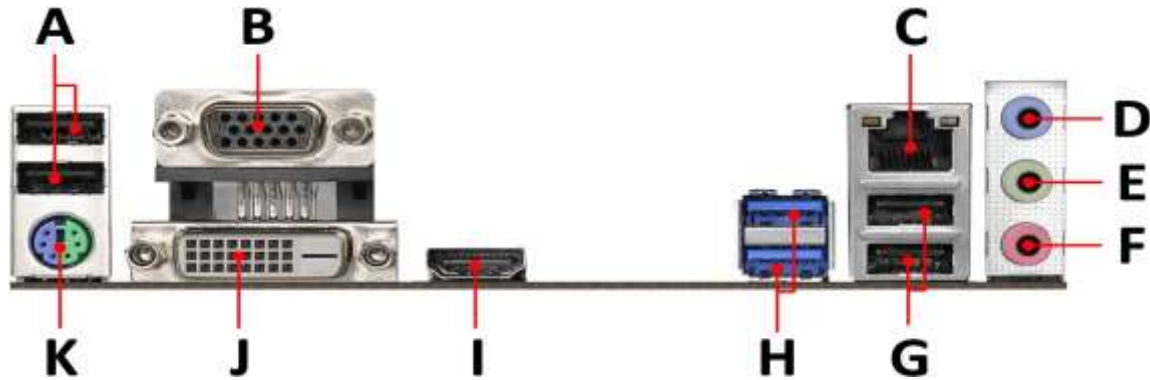

Figure 7.1 I/O Ports view in the computer (General Ports)
7.1 Prelab: Observe the ports/interfaces in Figure 7.1 below and fill in your results in Table 1.